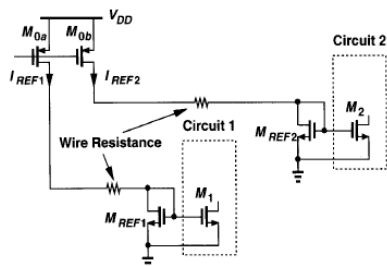

Figure 18.22 Distribution of current to reduce the effect of interconnect resistance.
- Fig. 18.22: Route the reference current to the vicinity of the building blocks and perform the current mirror operation **locally**.